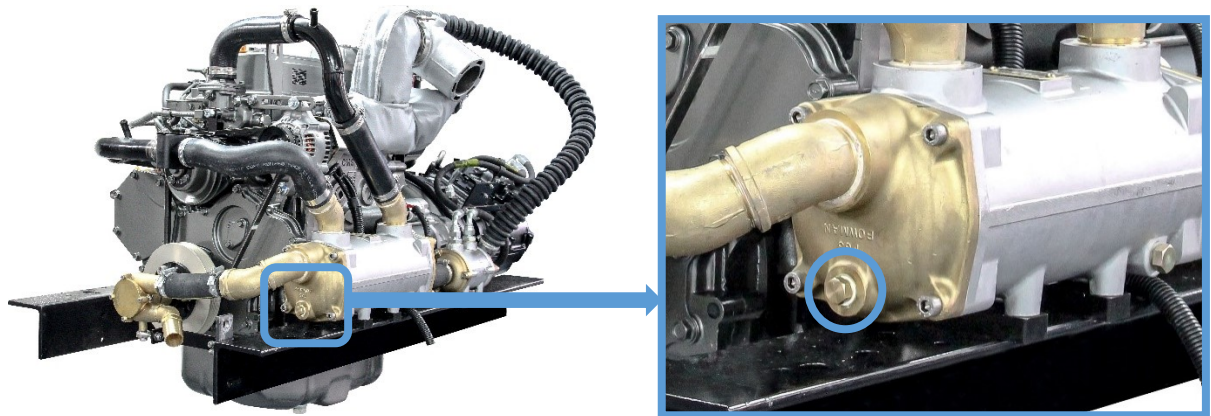

Figure 18: Shire 70WB Sacrificial Anode Location
- The anode is located on the end of the heat exchanger (**Figure 18**)